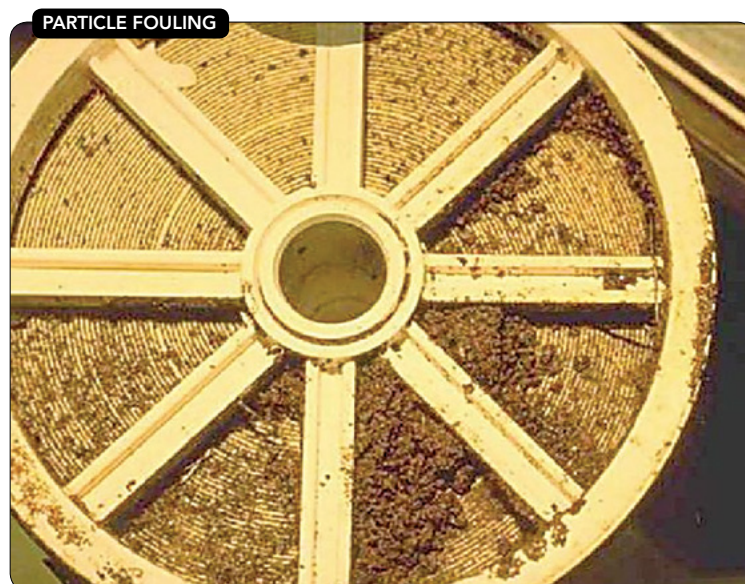

Figure 2. Such fouling occurs in the first RO stage, particularly on its feed screen.
- Colloidal and particle fouling (Figure 2) is specific to the first RO stage. (Its feed screen tends to catch these foulants.)